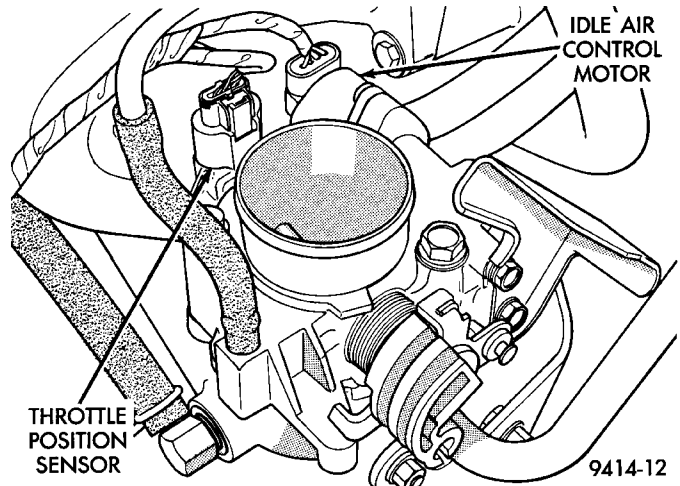

Fig. 14 Idle Air Control (IAC) Motor and Throttle Position Sensor (TPS) Wiring Connectors and Vacuum Hose Connection
(10) Remove accelerator, kickdown and speed control cables from throttle lever and bracket. Refer to Group 14, Fuel System Throttle Body Removal for procedures.
(11) Disconnect Idle Air Control (IAC) motor and Throttle Position Sensor (TPS) wiring connectors (Fig. 14).
(12) Disconnect vacuum hoses from throttle body (Fig. 14).